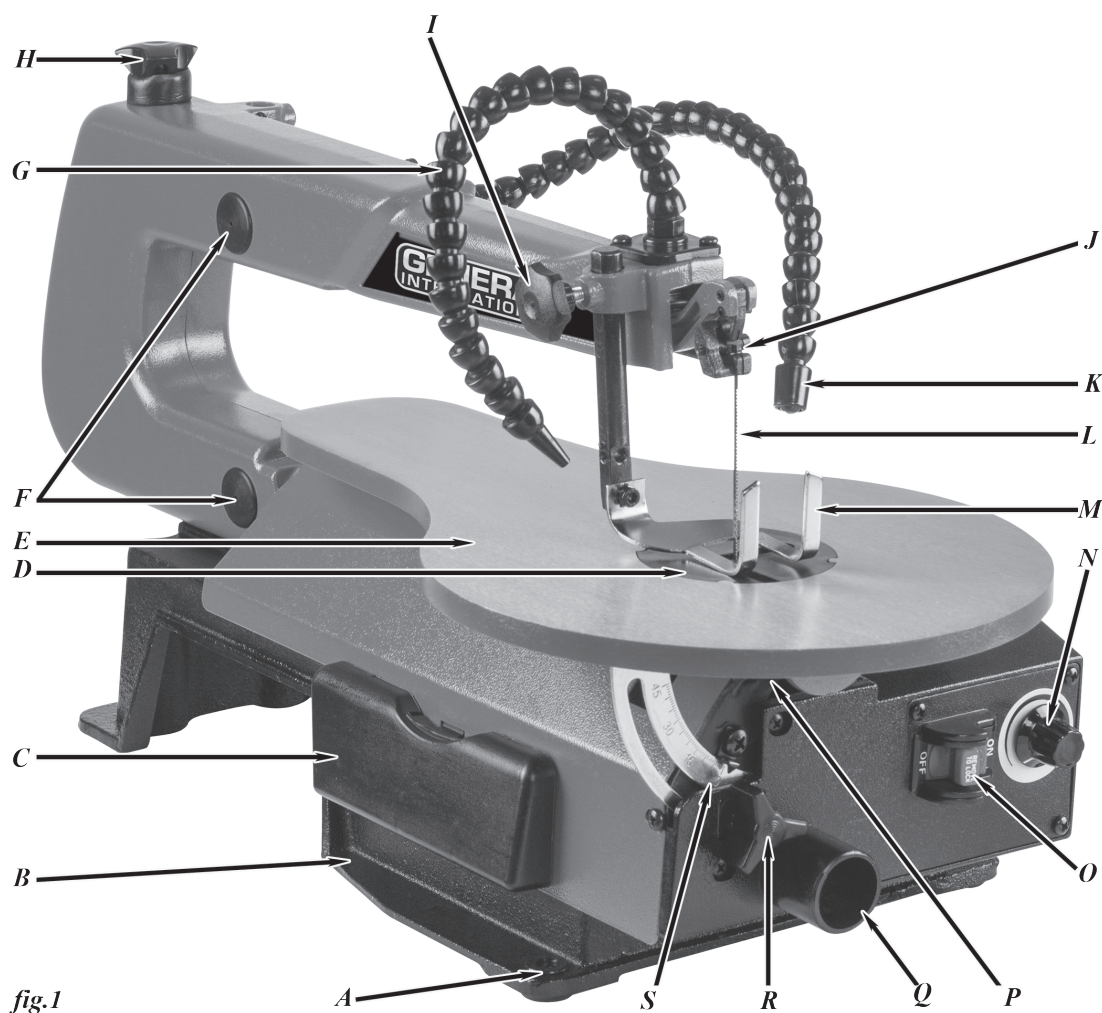

fig.1
3. Loosen the table bevel lock knob (R, fig1) and move the table until it is at a right angle to the blade. Use a combination square to set the table exactly 90° to the blade.
1. Release blade tension by loosening the blade tension knob (H, fig 1).
10. To tension the blade, tighten the blade tension knob (H, fig 1). Make sure the blade is properly located in the blade holders. Turn the blade tension knob until light finger pressure on the side of the blade moves it about 1/8" (3 mm). This amount of blade pressure should do well for most cutting operations.
1. To turn the saw ON, move the switch (O, fig 1) to the (ON) position.